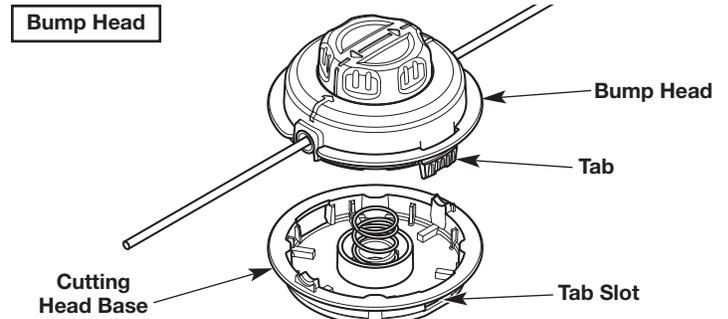

Fig. 6
2. Disconnect the bump head from the cutting head base: Firmly press a tab on the bump head (Fig. 6). Use your thumb. If necessary, use a flat-head screwdriver:
- c. While holding the screwdriver in place, gently twist the screwdriver to unlock the tab from the tab slot (Fig. 6).
3. Align the tabs on the bump head with the tab slots on the cutting head base (Fig. 6). Push the bump head onto the cutting head base until both tabs snap into place.